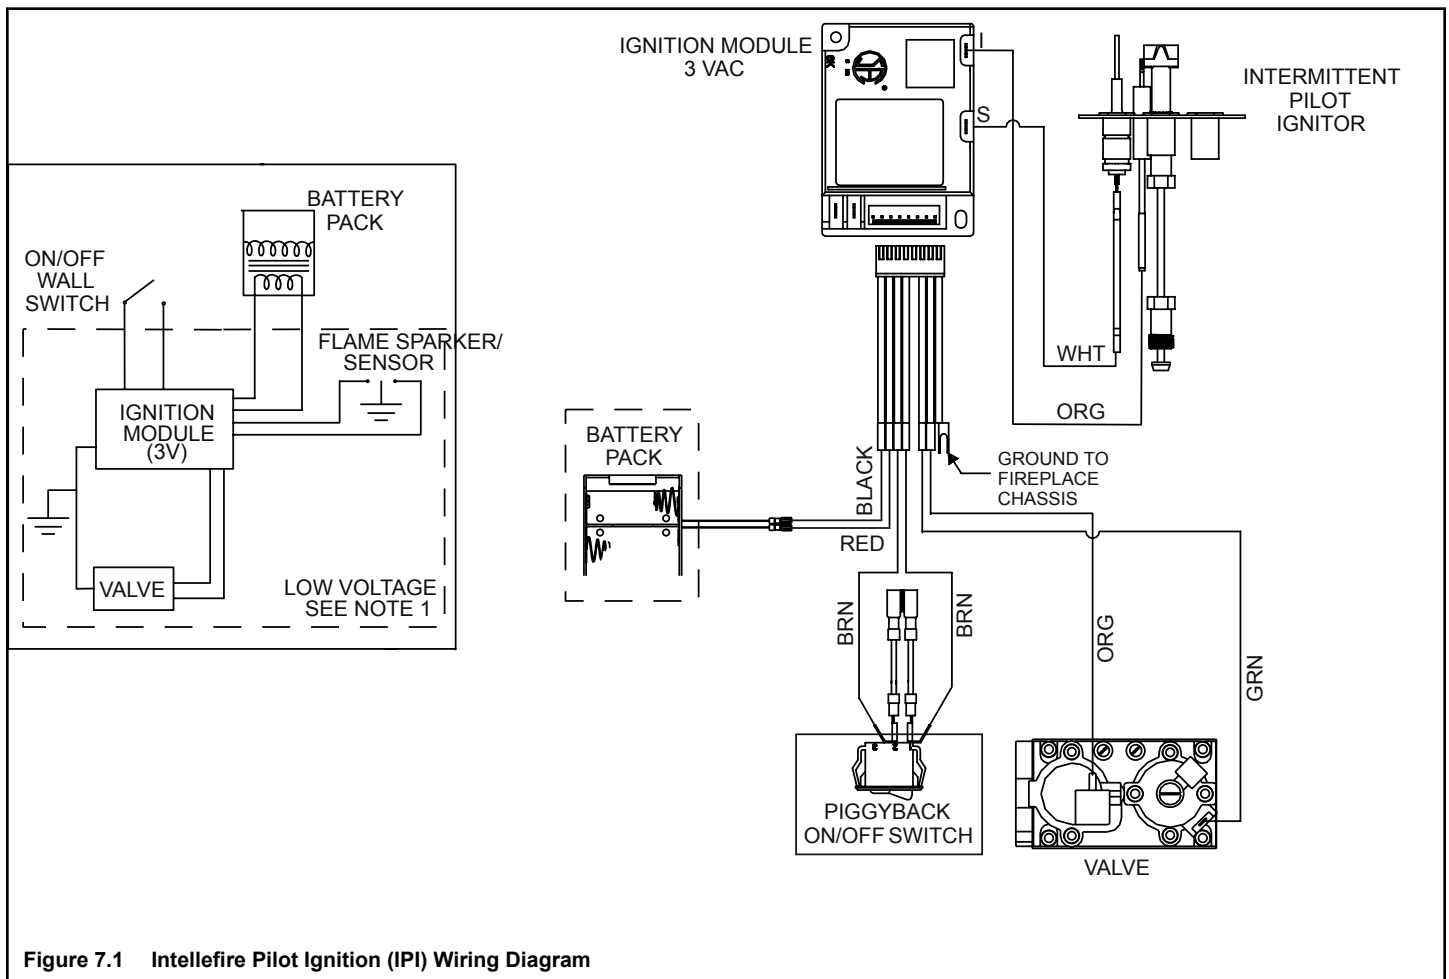

Figure 7.1 Intellefire Pilot Ignition (IPI) Wiring Diagram
- This appliance is supplied with a battery pack which is located in the ON/OFF switch terminal box. A wiring diagram is shown in Figure 7.1.